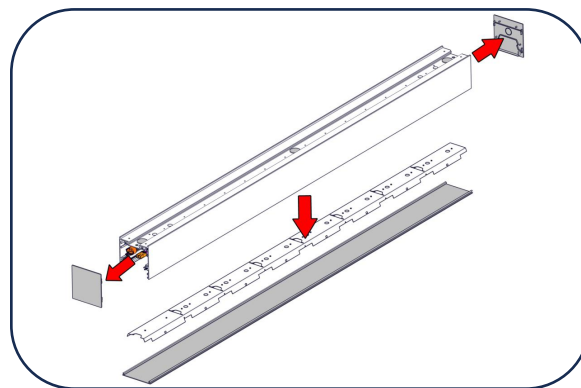

Figure 1
2. Remove the End Caps and Lens. [Figure 1]
3. Disconnect and remove each LED Tray. [Figure 1]